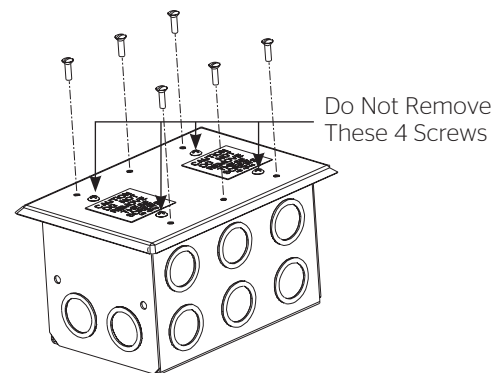

Figure 2
To open the unit, please follow these instructions and Figures 2, 3, and 4.
1. Remove the six screws that hold the cover plate to the box **(DO NOT REMOVE the 4 screws in the middle of the cover plate; these hold the circuit board to the cover plate.)** See Figure 2.